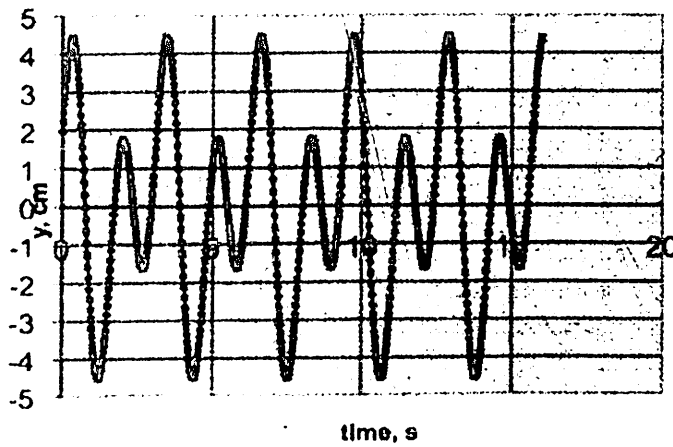

Figure 3.5.1 Periodic Motion
1. Introduce the concept of Periodic Motion and define amplitude (A), period (T) and frequency ($f=1/T$).
2. Discuss characteristics of periodic motion as in figure 3.5.1.